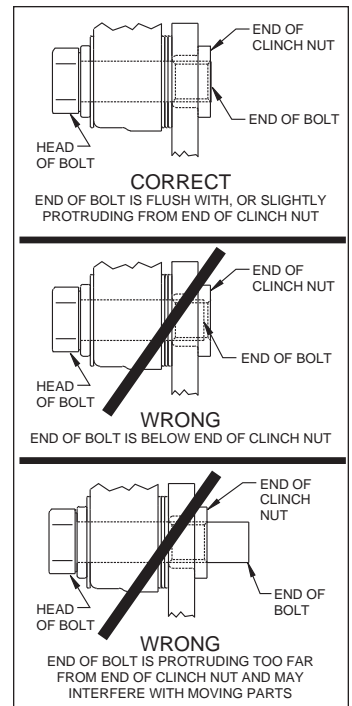

Figure 4. Clinch Nut Engagement Diagram
CAUTION: All mounting bolts must fully engage insert nuts, Figure 4. Be sure to check that all bolts are either flush or protruding through flanged side of insert nut after shimming. Rear hole refers to the part of the spindle that would be facing the back of the vehicle, front is facing the front of the vehicle.
- Adjust by adding or subtracting shims (2) between the bracket and the spindle. Always use the same amount of shims on each of the two mounting bolts.
- NOTE:** The end of each bolt must be flush with or slightly protruding from the head of the clinch nut, as shown in Figure 4. If necessary place spare shims (2) between washer (19) and caliper mounting ear to achieve the proper clinch nut engagement. Once the caliper alignment and clinch nut engagement is correct, remove the ProSpindle and steering arm bolts one at a time, apply red *Loctite*[®] 271 to the threads, and torque to 55 ft-lb. Remove the caliper mount bolts one at a time, apply red *Loctite*[®] 271 to the threads, and torque to 40 ft-lb.
- Install the disc brake pads (21) into the caliper (18), with the friction material facing the rotor (8), and secure in place using cotter pin (22), Photo 10.